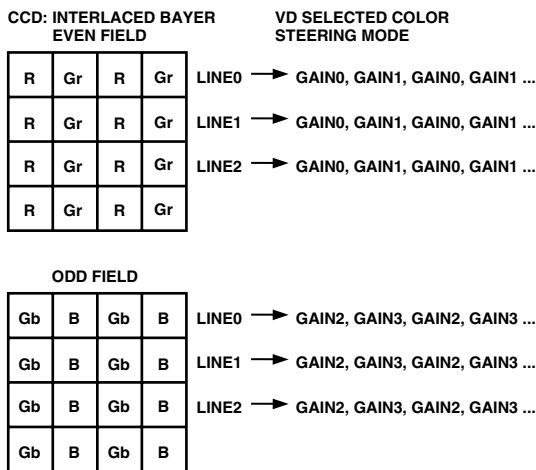
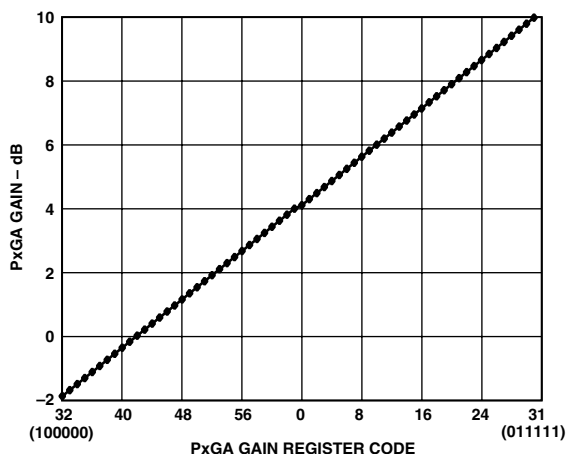

Figure 27. CCD Color Filter Example: Interlaced
Figure 28. *PxGA* Gain Curve
The same Bayer pattern can also be interlaced, and the VD Selected mode should be used with this type of CCD (see Figure 27). The Color Steering performs the proper multiplexing of the R, G, and B gain values (loaded into the *PxGA* gain registers), and is synchronized by the user with vertical (VD) and horizontal (HD) sync pulses. For more detailed information, see the *PxGA* Timing section. The *PxGA* gain for each of the four channels is variable from -2 dB to +10 dB, controlled in 64 steps through the serial interface. The *PxGA* gain curve is shown in Figure 28.